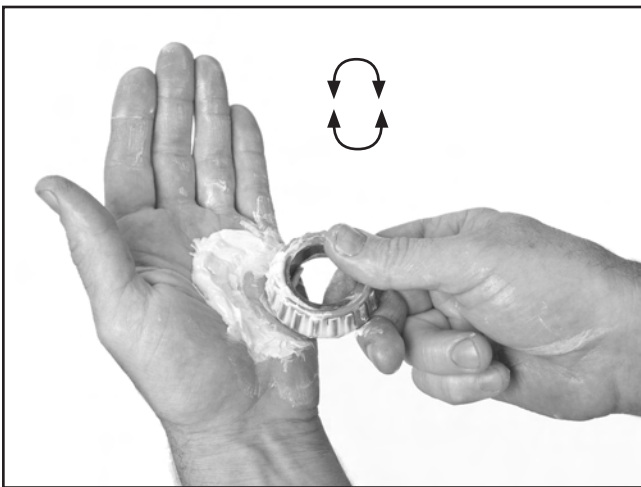

Figure 64. Packing outboard roller bearing with grease.
14. Place a thick layer of grease on the bottom of your palm, and in a sweeping motion, use the large side of the bearing cage to scrape the grease off your palm and into the spaces between the rollers. Continue doing this while rotating the bearing 360° until the grease emerges from the other side of the bearing cage, as shown in **Figures 64–65**.